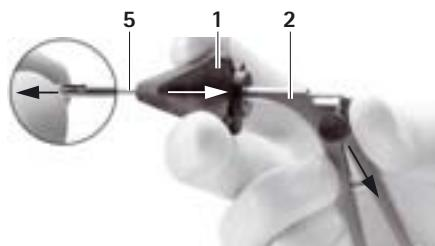

Fig. 2
- Separate shaft 5 from handle 2, see Fig. 2: